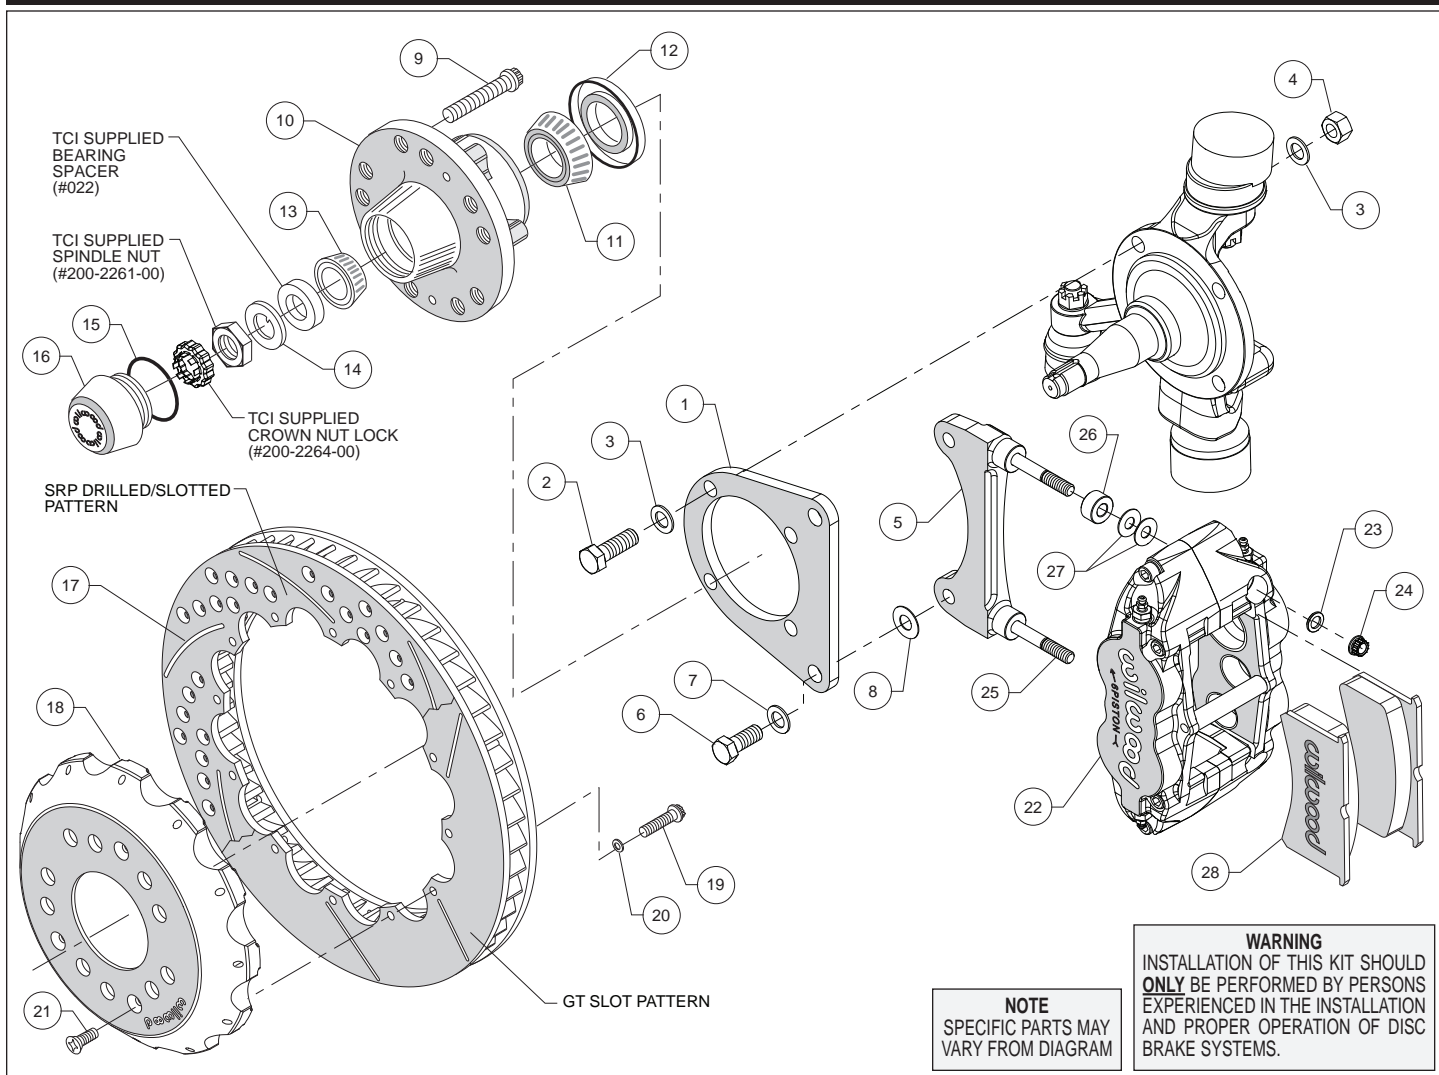
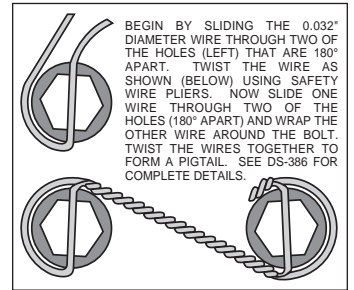

Figure 1. Typical Installation Configuration
Figure 3. Safety Wire Diagram
**Assembly Instructions** (numbers in parenthesis refer to the parts list, and Figure 1 on the preceding pages):
- Orient the flat bracket (1) as shown in Figure 1, and Photo 1, and install using bolts (2), washers (3), and nuts (4). **NOTE: The two lower mount bolts thread directly into the steering arm.** Temporarily tighten the mounting bolts. **NOTE: The bracket must fit squarely against the spindle face.** Inspect for interference from casting irregularities, machining ridges, burrs, etc. After the bracket alignment has been checked, remove the bracket mounting bolts (or nuts) one at a time and apply red *Loctite*® 271 to the threads. Torque bolts to 77 ft-lbs.
- The radial mount caliper bracket (5) should initially be installed with clean, dry threads on the mounting bolts. Orient the bracket as shown in Figure 1, and Photo 2, and install using bolts (6), and washers (7). Initially place one .029" thick shim (8) on each bolt between the flat bracket (1) and radial mount caliper bracket (5), Figure 1. Temporarily tighten the mounting bolts. Later, after the caliper alignment has been checked, the mount bolts will be secured using red *Loctite*® 271.
- Install wheel studs (9) into the hub (10), Photo 3. Torque to 77 ft-lb. **NOTE: There are two five lug patterns in the hub (5 x 4.50 and 5 x 4.75).** Ensure the correct hub stud pattern is being used to fit the wheel application.
- Pack the large inner bearing cone (11) with high temperature disc brake bearing grease (available from your local auto parts store) and install into the backside of the hub (10), Photo 4.
- Install the grease seal (12) by pressing into the backside of the hub (10), flush with the end of the hub, Photo 4.
- Pack the small outer bearing cone (13) with high temperature disc brake bearing grease and install into hub (10), Photo 5. Slide the hub assembly onto the spindle. Install TCI supplied bearing spacer (#022). Secure using spindle washer (14) and TCI supplied spindle nut (#200-2261-00). Bearing adjustment: Tighten the nut while turning the hub. When there is a slight bind on the bearings, they are seated correctly. Back the nut off about 1/6 to 1/4 of a turn, or sufficiently to allow .001" to .007" end play. **WARNING: Failure to back off adjusting nut could cause bearing to run hot and be damaged, which could cause the wheel to lock**
- Screw dust cap (16) into hub (10), Photo 6. Friction created by the o-ring (15) on the dust cap keeps it from unscrewing.
**NOTE:** The O.D. of the existing spindle washer may be larger than the I.D. of the dust cap not allowing it to seat against the hub face. Therefore, use the spindle washer (14) supplied with the kit.
- Orient the rotor (17) and the hat (18) as shown in Figure 1 and Photo 7. Attach rotor to hat using bolts (19) and washers (20). Using an alternating sequence, apply red *Loctite*® 271 to the threads, and torque to 155 **in-lbs**. For an added measure of security, the bolts may be safety wired using standard 0.032 inch diameter stainless steel safety wire as shown in Figure 3. Please refer to Wilwood's data sheet DS-386 (available at [www.wilwood.com/Pdf/DataSheets/ds386.pdf](http://www.wilwood.com/Pdf/DataSheets/ds386.pdf)) for complete safety wire installation instructions.
- Slide the hat/rotor (17/18) onto the hub (10) taking care to align the small countersunk holes in the hat with the small threaded holes in the hub. **NOTE:** The hat must fit flush against the hub face or excessive rotor run out may result. Install three flat head screws (21) through the small holes in the hat (18), Photo 8, and torque to 85 **in-lb**.
- NOTE:** This kit contains distinct right and left hand calipers that must be mounted in a specific direction, as described below. Lubricate the caliper mounting studs (25) with lightweight oil. Initially place two .035" thick shims (26) on each stud between the caliper and the bracket, as shown in Figure 1 and Photo 9. Mount the caliper (22) onto the bracket (5) using lock nuts (24) and washers (23), Figure 1. Ensure that the caliper is mounted so the largest pistons are at the rotor exit end of the caliper, in relation to the direction of rotor rotation. Temporarily tighten the lock nuts and view the rotor through the top opening of the caliper. The rotor should be centered in the caliper, Photo 10. If not, adjust by adding or subtracting shims (8) between the flat bracket and the radial mount bracket. Always use the same amount of shims on each of the two mounting bolts. Once the caliper alignment is correct, remove the radial mount bracket bolts one at a time, apply red *Loctite*® 271 to the threads, and torque to 77 ft-lb.
- Remove the caliper center bridge pad retainer bolt, nut, and tube from the caliper. Insert the brake pads (27) into the caliper, with the friction material facing the rotor, as shown in Photo 11. Check that the top of the brake pad is flush with the outside diameter of the rotor, Photo 12. If not, adjust by adding or subtracting shims (26) between the caliper and the bracket. After the caliper pad height is set, torque the caliper lock nuts (24) to 30 ft-lb. Secure the brake pads in place with the center bridge pad retainer tube, bolt, and locknut. The locknut should be snug without play in the bolt or tube. Be cautious not to over tighten.